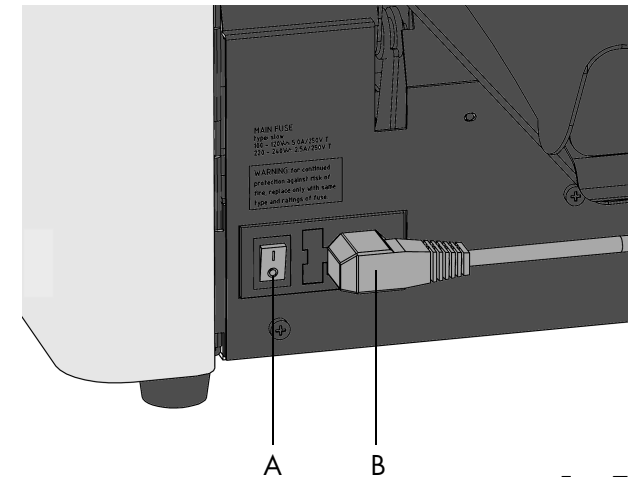
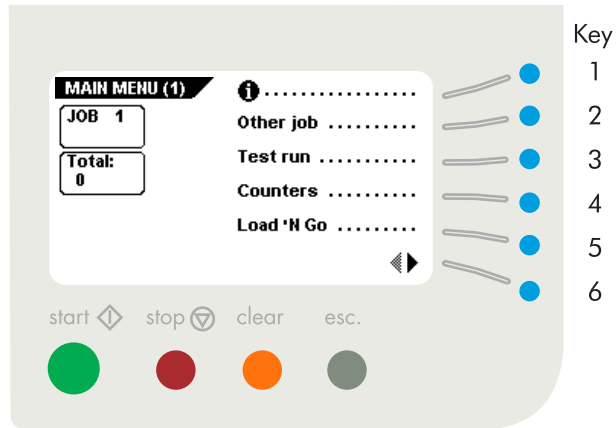

Fig. 7
Fig. 8
Connect the power supply cable B (fig. 7) with the socket outlet.
The machine can be switched on or off with the power switch A (fig. 7) on the back of the machine. After starting up, the display shows the "main menu (1)" (see fig. 8 on page 6).